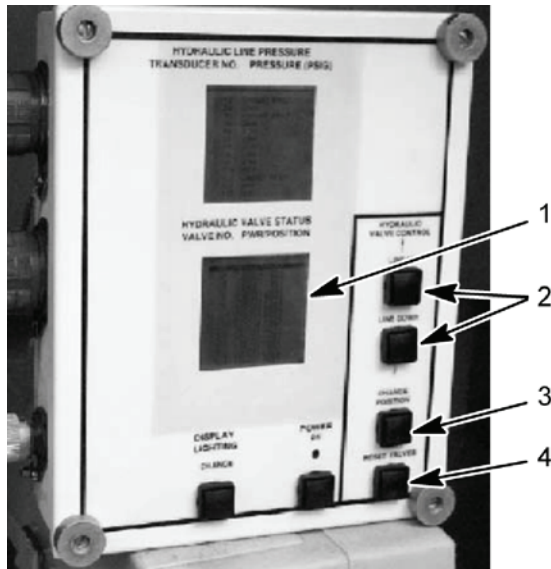

Figure 7. HDC Control Box
- Reset all HDC solenoid valves by selecting the RESET VALVES button (Figure 7, item 4) on the HDC control box.
- Using LINE UP or LINE DOWN button (Figure 7, item 2) on the HDC control box, select V5 on the HDC display (Figure 7, item 1). Using the CHANGE POSITION button (Figure 7, item 3), close V5 on the HDC display (Figure 7, item 1). Repeat step for V12, V13, and V19; closing V12 and V13, and opening V19.